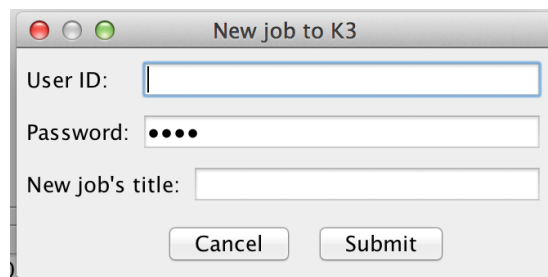

Figure 3.13: The “New job to K3” dialog.
3. Enter the User ID and Password of a K3 account and the title of new job (see Fig. 3.13)